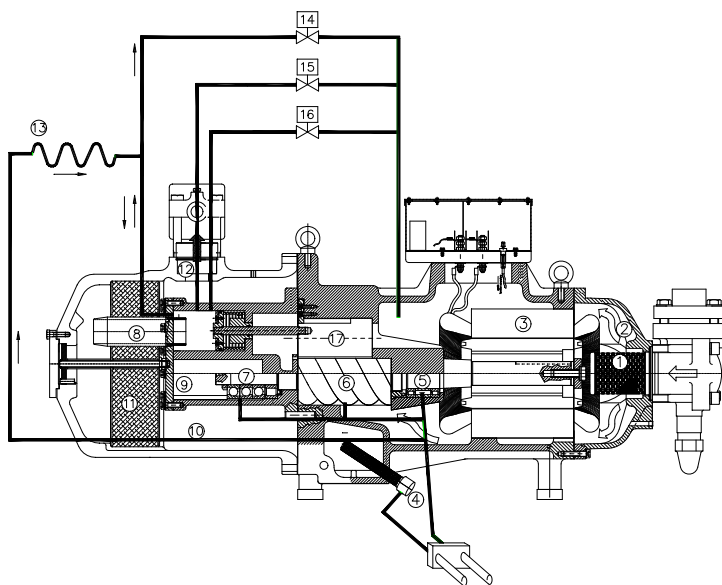

Fig. 15: step capacity control oil circuit
The cylindrical chambers that house the screw rotors are fitted with a longitudinal port, whose connection with the suction side is regulated by the position of the slide valve (17), see Fig. 15.
In the configuration with 4 steps the slide valve automatically returns to the position of minimum capacity after the compressor stops. In fact due to the pressure difference the oil can flow out of the cylinder to the crankcase through the pipe marked by number 20, see Fig. 15. Therefore the compressor can start again at the minimum capacity.